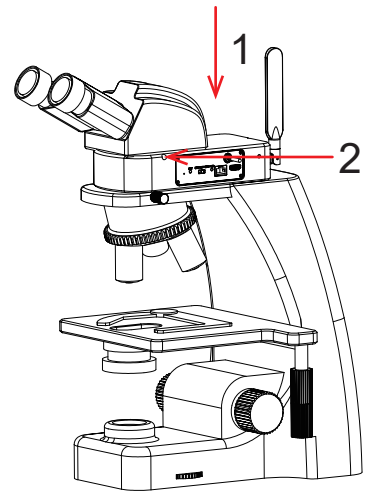

Figure 10
(3) Installation for the objective end of the microscope, as shown in Figure 10: